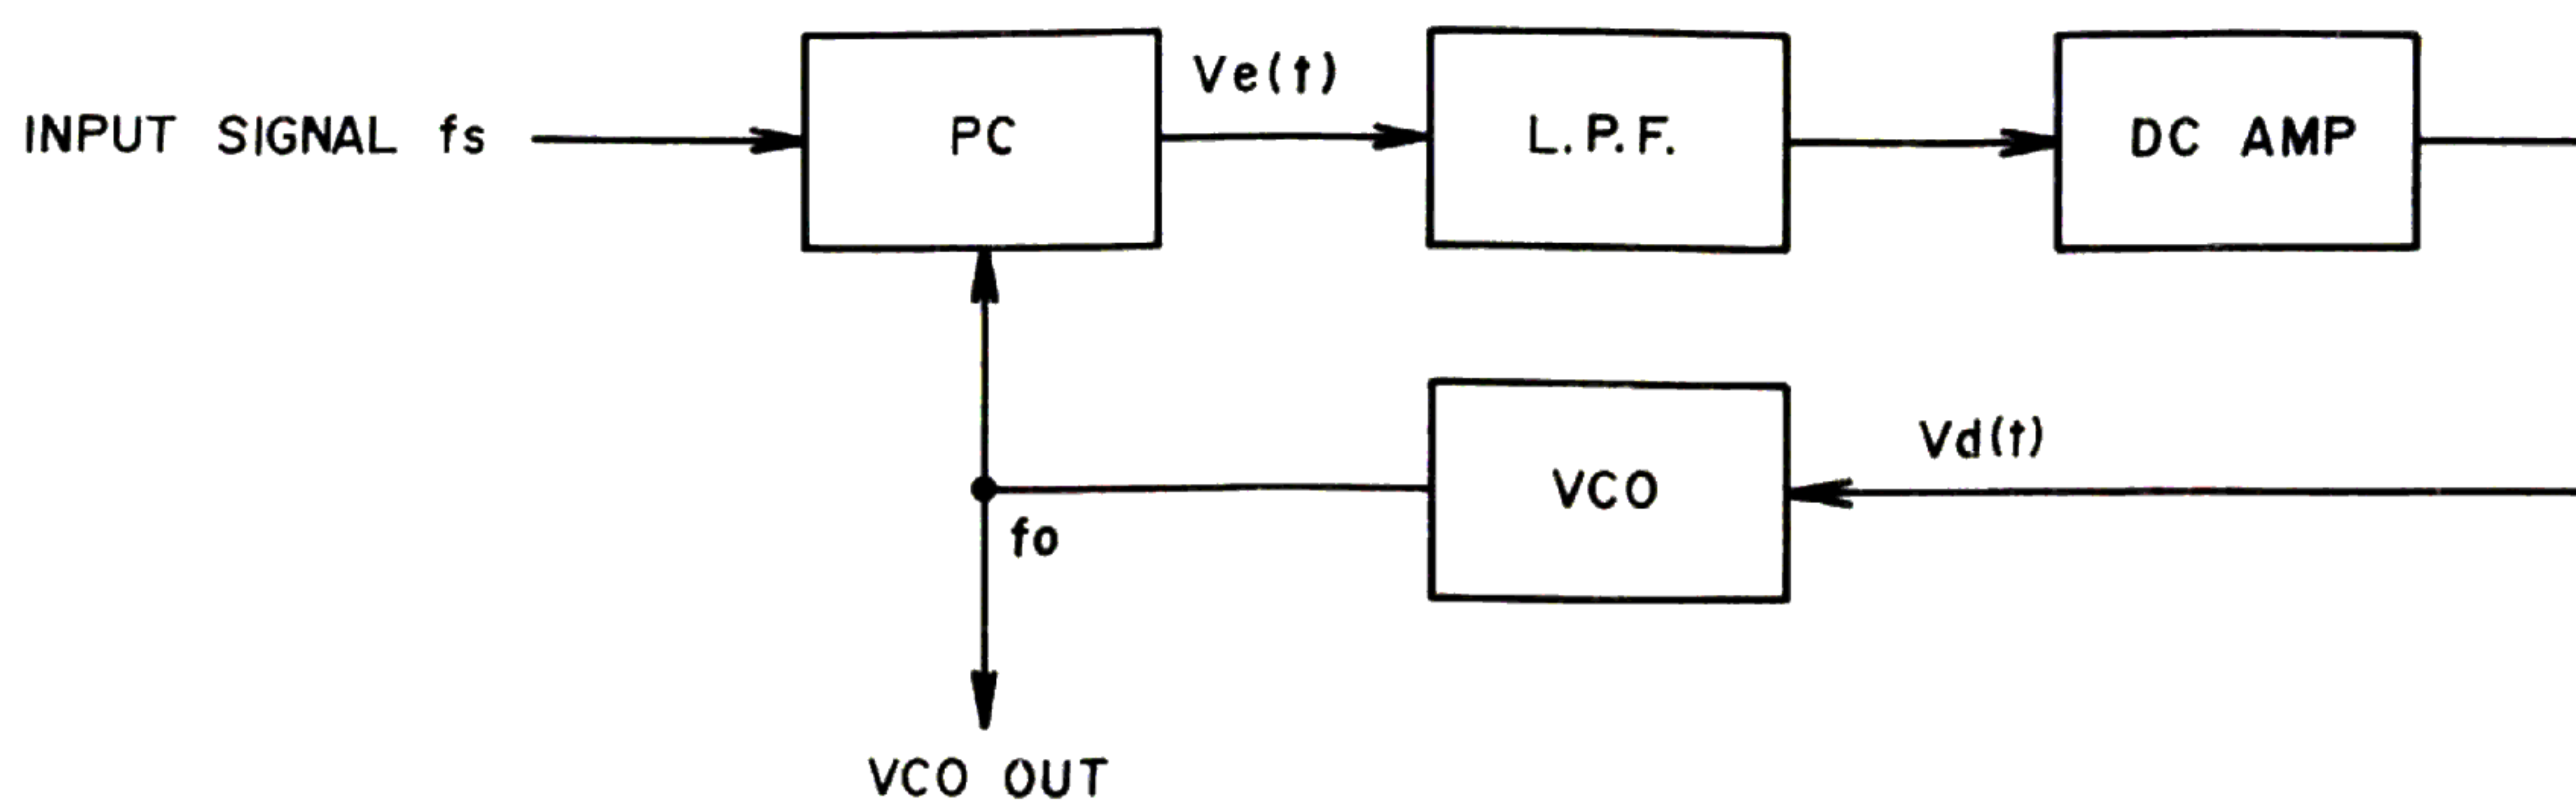

Fig. 13 PLL Circuit
PLL circuit is a kind of feedback circuit and is comprised of a Phase Comparator (PC), a Low Pass Filter (LPF), a Direct Current Amplifier (DC Amp) and a Voltage Control Oscillator (VCO) as shown in Fig. 13. The PC compares input signal F_s and VCO oscillator output and generates the difference in signal voltage $V_e(t)$ proportionately to this phase deviation. This $V_e(t)$ passes LPF and the DC Amp and becomes control voltage. This control voltage supplied to VCO and VCO oscillation frequency is DC controlled. When there is no input signal F_s , because there is also no $V_e(t)$, control voltage $V_d(t)$ becomes zero, and VCO maintains a *Free-running oscillation frequency. When a signal enters, VCO oscillation frequency F_o is controlled to narrow the
On the other hand, the difference signal of both (L-R) is changed to high frequency through the use of the sub carrier, and is referred to as the sub channel signal. The carrier is further frequency modulated and sent to the FM stereo transmitter. Accordingly, for composite stereo signal demodulation, the sub carrier used for demodulation at the transmitter must be the same uniform 38 kHz signal as the frequency and phase. If the 38 kHz waveform is asymmetrical, channel separation will become poor. At the PLL employed MPX stereo demodulator circuit, as shown in Fig. 13 first a 76 kHz signal is oscillated and when this passes the divider, a symmetrical 38 kHz signal is obtained.